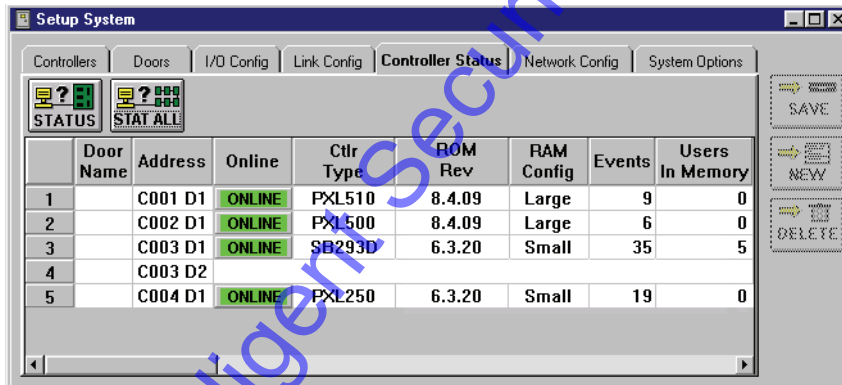

Figure 2-48: Received All Controllers' Status
3. Click on the  button. All controllers are polled for their configuration and status, and this information is entered into the Controller Status spreadsheet (see Figure 2-48).